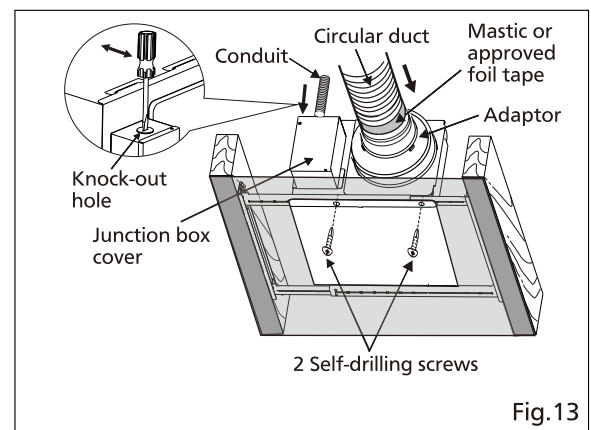

Fig.13
3. Install the adaptor to Flex-Z Fast™ bracket by using 2 self-drilling screws. (Fig.13)